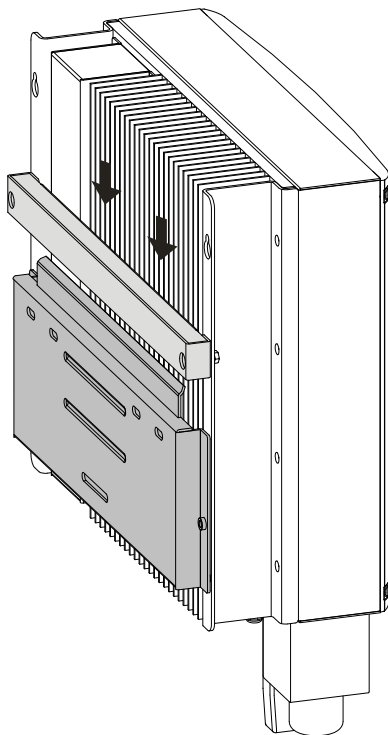

Figure3-6 Fasten the inverter to the installation holder
- Step 5 As shown in Figure3-6, uplift the inverter and insert the holes in the back of the inverter into the bulge of installation holder slowly. It can't release the inverter until it has been fastened firmly.